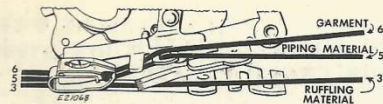

Fig. 62. Correct Positions for Materials
1. Insert material to be ruffled between two blue blades from the right (Line 3, Fig. 62). This material must not exceed $1\frac{1}{4}$ inches in width.
2. The piping material is usually cut on the bias and it should be about $\frac{1}{4}$ inch wide when folded in centre. Place piping material in ruffle, following Line 5, Fig. 62 with folded edge of piping to right.
3. Fold edge of material to which piping and ruffling are to be attached and insert it in ruffler, from the left following Line 6, Fig. 62.